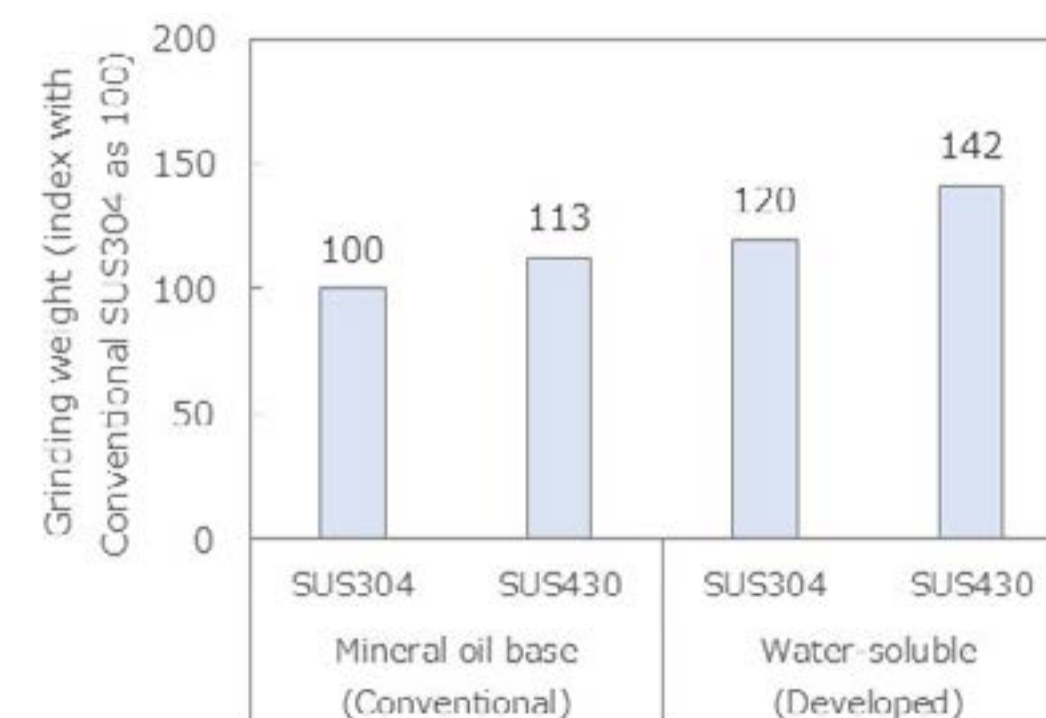

Fig. 1 Relationship between total grinding amount and oil type (Test machine in laboratory)
**Measurable:** Compared to mineral oil-based belt grinding oils, water-soluble belt grinding fluids suppress abrasion of the abrasive grains of the grinding belt, and the amount of grinding decreases less over time. Fig 1, 2